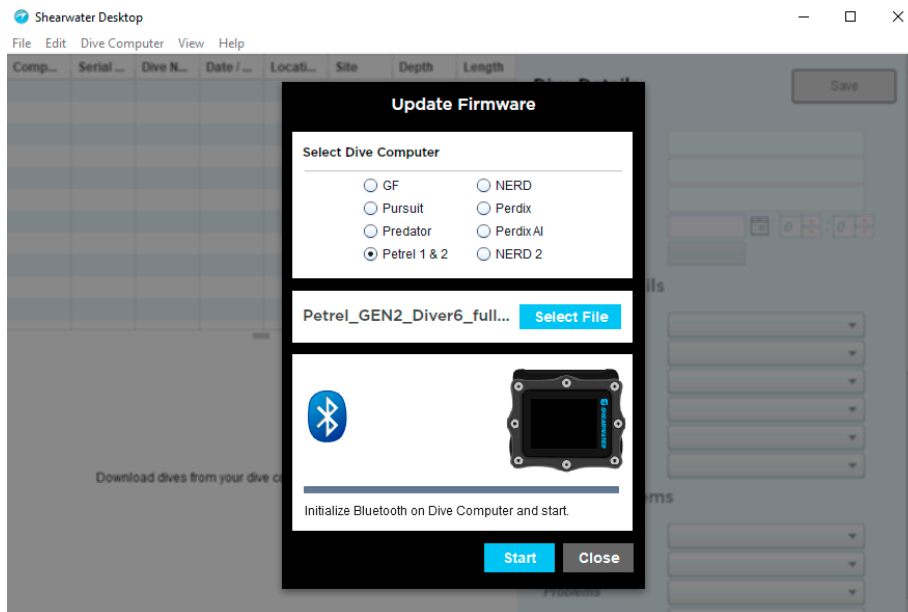

Figure 80: Shearwater® Update Screen
2. Simply double-click on the firmware file and the Shearwater® Desktop software should automatically run and present you with the “Update Firmware” screen (Figure 80)